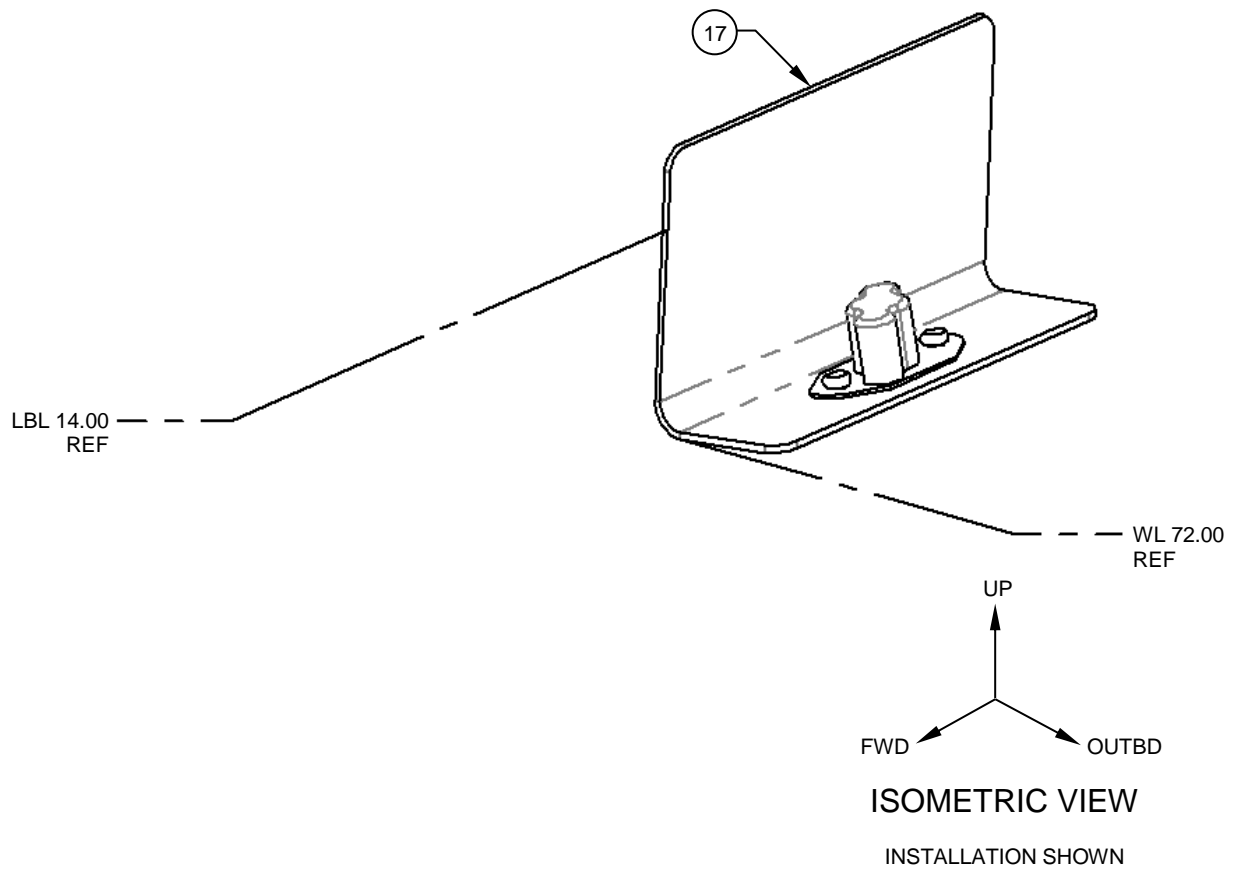

Figure 4
7. Remove the existing spare bulb holder clip (205-030-617-037) and replace with the Clip, Assy (Item 20). Back-drill the Clip, Assy (Item 17) from the existing holes making sure that the clip is positioned to keep the spare bulbs from contacting the Coax Cable, Assy (Item 13). Rivet in place with MS20470AD(X)-(X) rivets. Reference Figure 4.